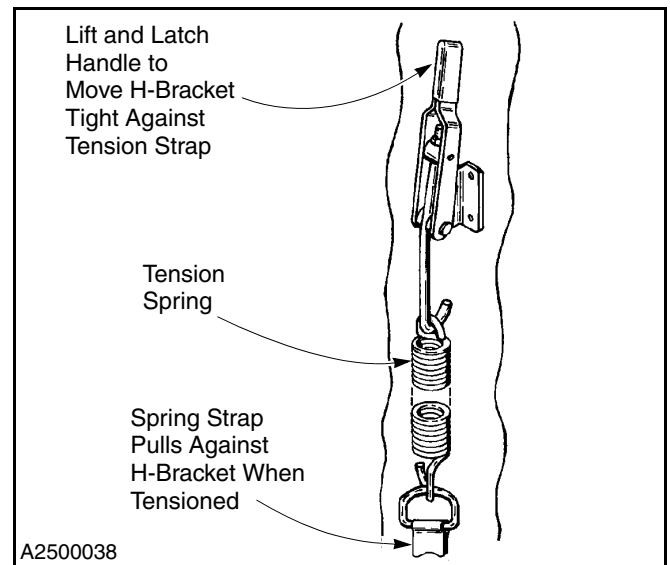

Figure 60
11. Add tension to the strap by moving the handle of the spring tension assembly to its full up position. (See Figure 60.)